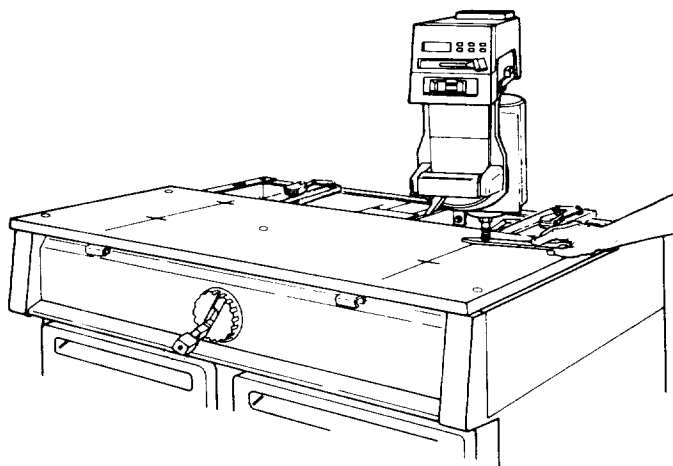

Fig. 79
17. Place the handle end of the *arbor wrench* over this point and lower the *arm* until the *arbor shaft* is just touching the *wrench*. The *wrench* should slide back and forth with slight contact. (Figure 79)